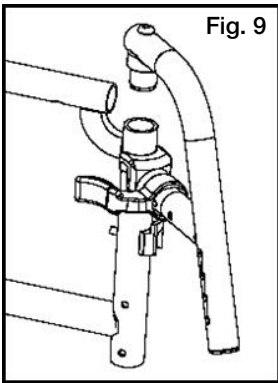
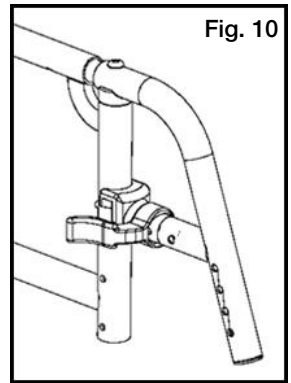

Fig. 9
Fig. 10
- a. Place swing-away pivot saddle into the receiver on front frame tube with the footrest facing either inward or outward from the frame (Fig. 9).
- b. Rotate the footrest so that it aligns with the frame until it locks into place in the latch block (Fig. 10).
- Place swing-away pivot saddle into the receiver on front frame tube with the footrest facing either inward or outward from the frame. Similar to swing-away footrest pictured in Fig. 9 and Figure 10 on page 22.